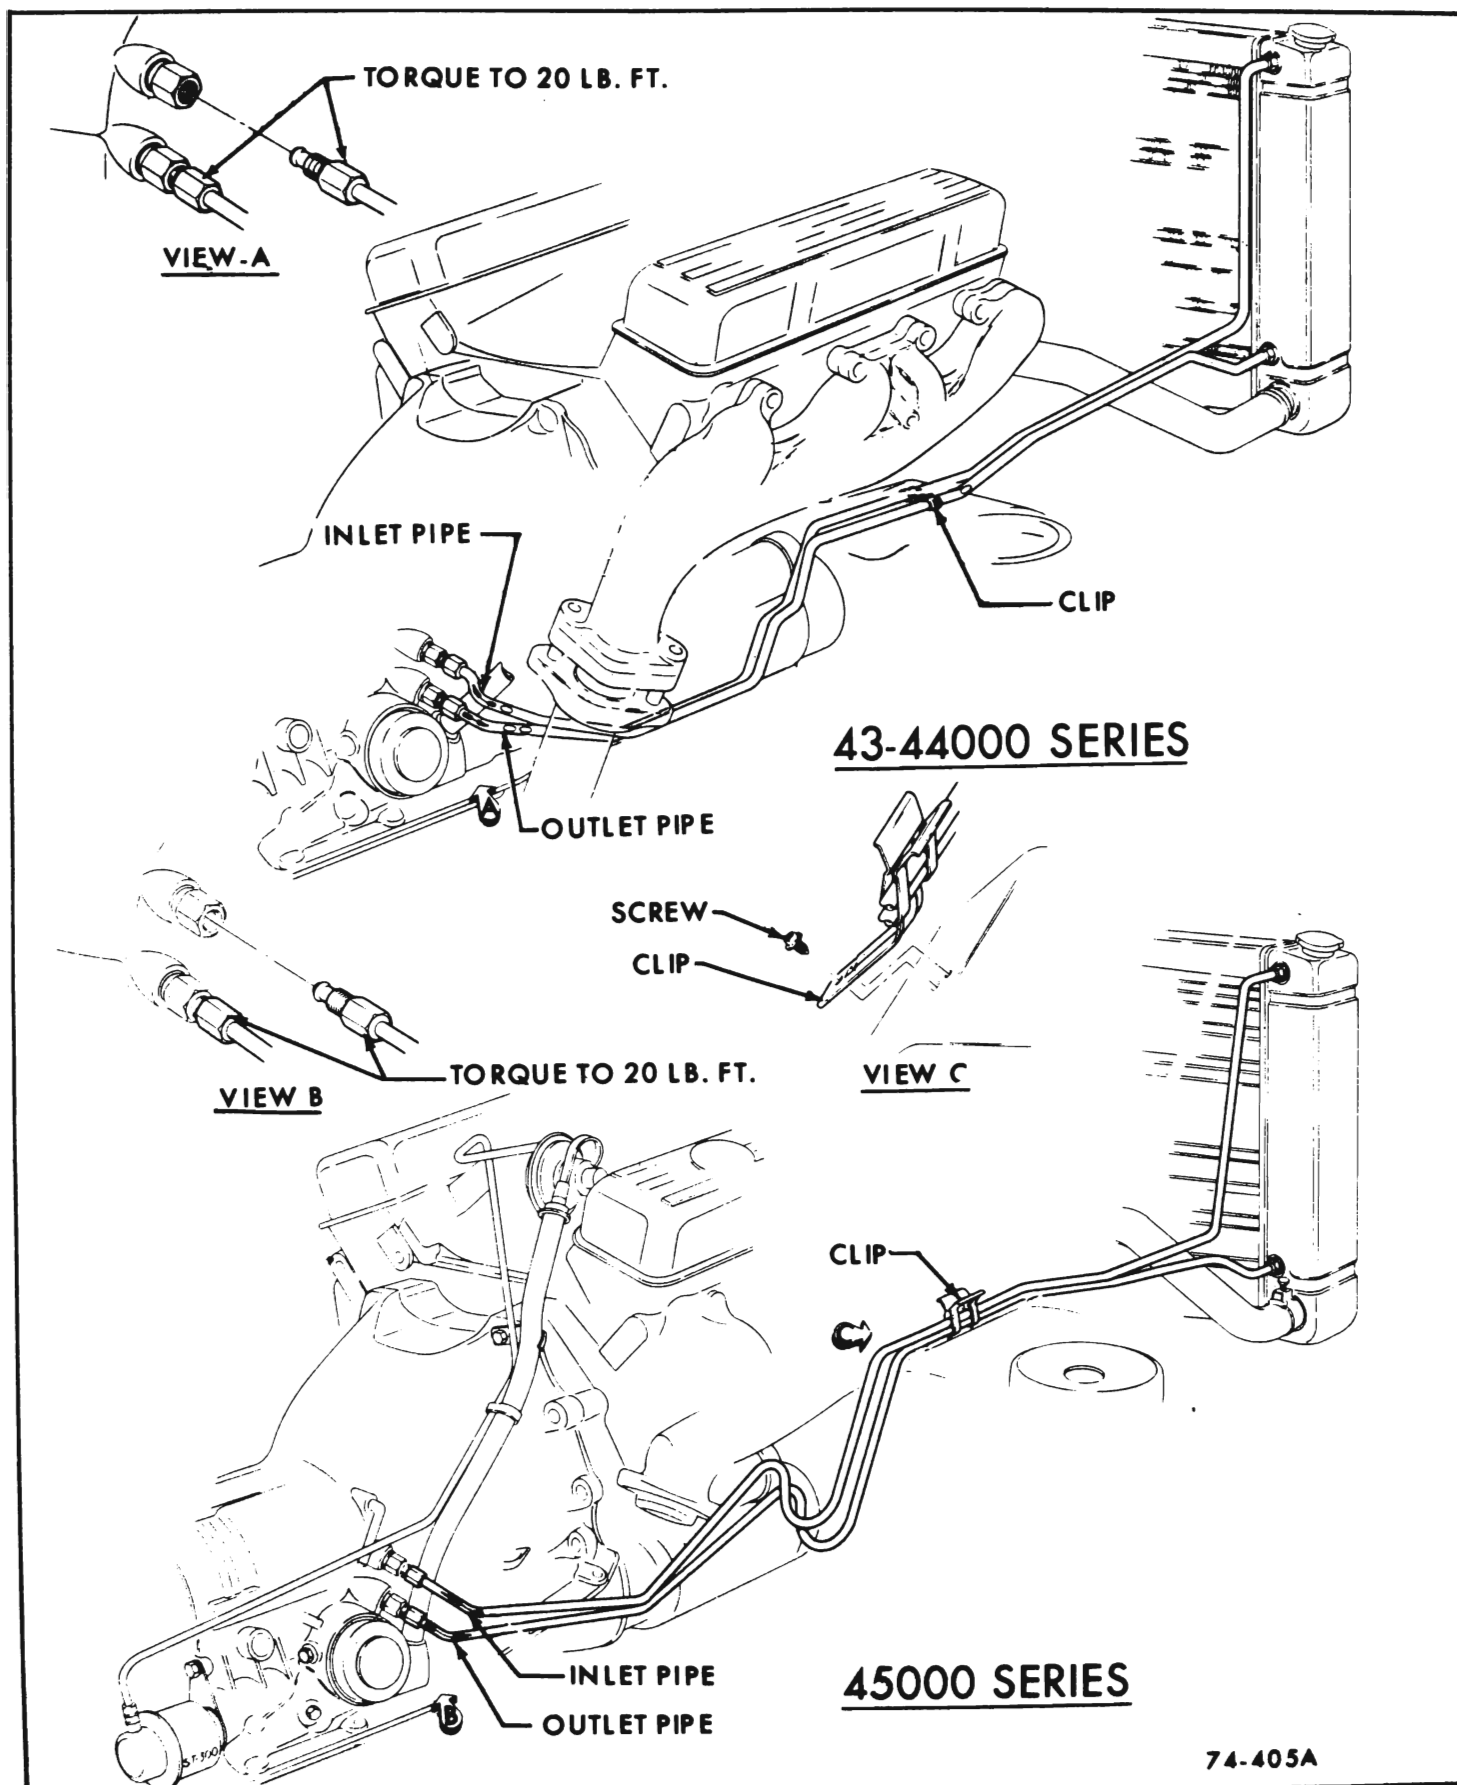

Figure 74-101 - Oil Cooler Lines
6. Loosen cooler line nuts and separate cooler lines from transmission. See Figure 74-101.
11. Install oil cooler lines to transmission. See Figure 74-101.